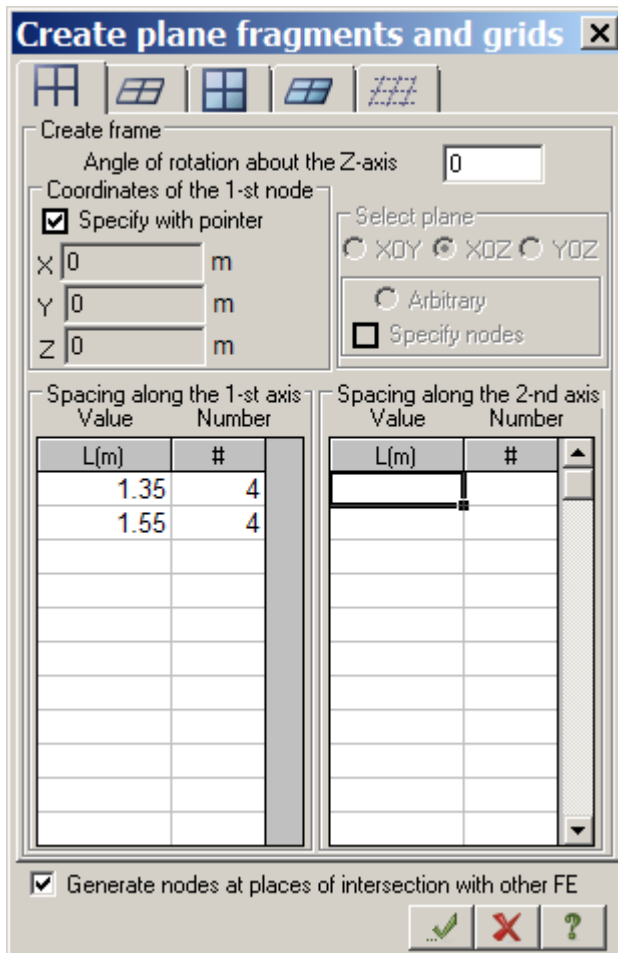

Figure 7.8 **Create plane fragments and grids** dialog box
- other parameters remain by default (see Figure 7.8).